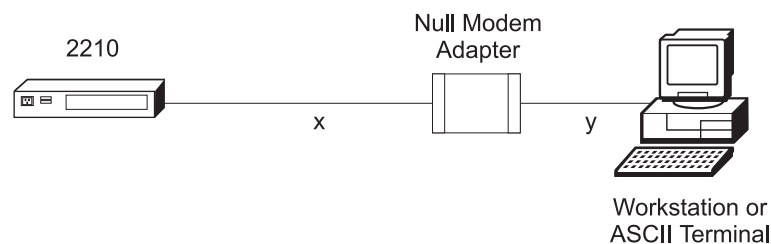

Figure 4-1. Local Terminal Connection to the EIA-232 Service Port
- Locally through a null-modem adapter and serial cables supplied with this product that are attached to the EIA-232 service port using an ASCII connection. See Figure 4-1.